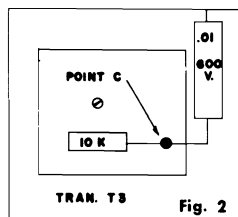
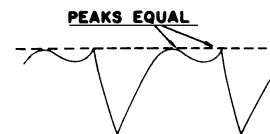

Fig. 2
Fig. 3
B+ and initial surge fuse (special 7.5 ohm resistor R-55) This fuse is of the plug-in type and is accessible by removing the cabinet back. See Figure 2 for location.
A SERVICE TEST RECEPTACLE, accessible from the top of the chassis (see Figure 2) provides the following test points:
- Connect a scope (capable of a flat square wave response at 15,750 C.P.S.) through a low capacity probe to point C Fig. 2. Adjust the bottom slug of T3 until the broad and sharp peaks are of equal height, Fig. 3 keeping the picture in sync. at all times. REMOVE SCOPE.